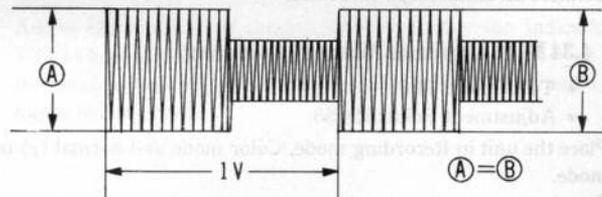

Fig. 42
- Adjust R538 so that the waveform amplitude of each vertical period becomes equal as shown in Fig. 42.